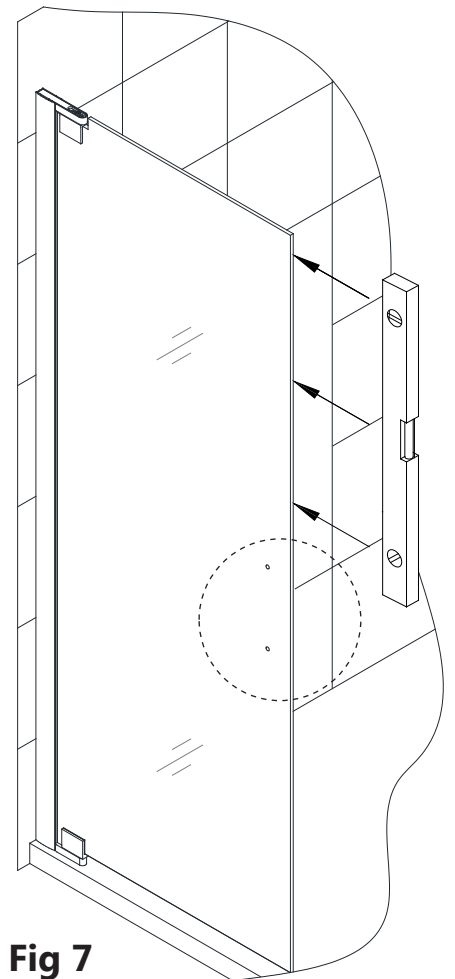

Fig 7
7. Attach the *Handle (#06 or #06-LS) onto the Door Glass (#03). (Fig 7)